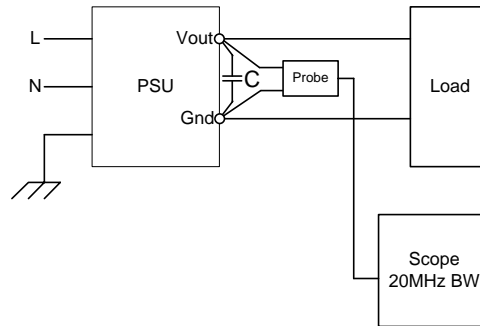

Figure 6. Output Ripple Test Setup
- Outputs bypassed at the point of measurement with a parallel combination of 10 μ F tantalum capacitor in parallel with 0.1 μ F ceramic capacitors, referring the setup in *Figure 6*.